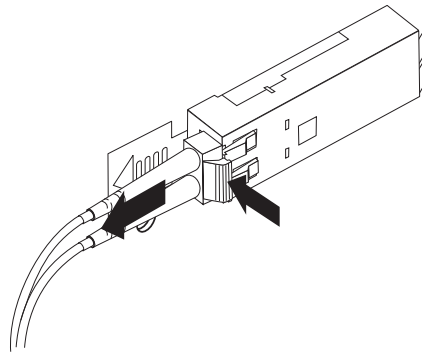

Figure 32. Removing the LC-LC fibre-channel cable
2. While pressing down the cable lever, carefully pull on the connector to remove the cable from the SFP module, as shown in Figure 32.